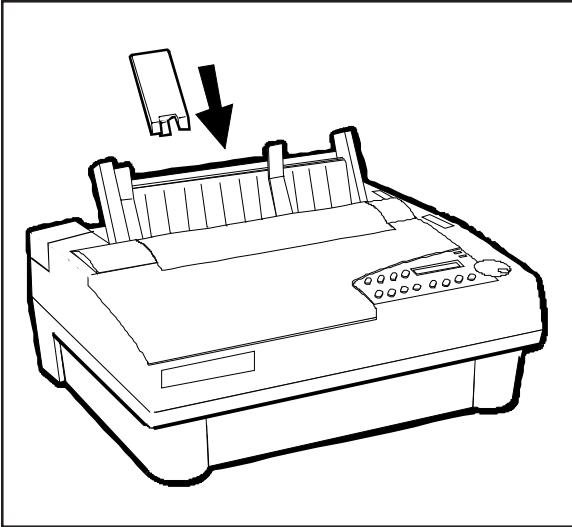

Figure 3-3. Attaching the Support Extender
2. Raise the paper support. If necessary for long single sheets, attach the paper support extender, as shown in figure 3-3.